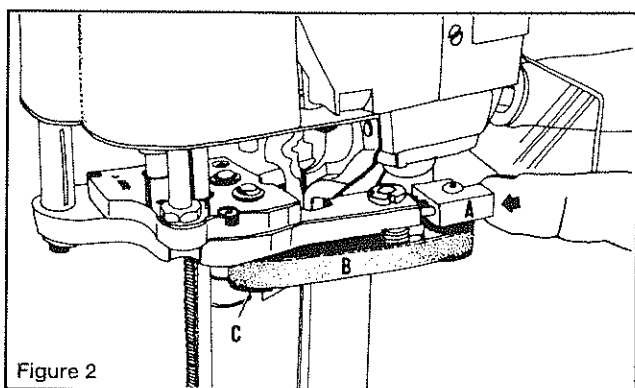

Figure 2
2.5 TO CHANGE FLEXIBANDS (Figures 2 and 3)
- Figure 2: Push Block "A" to release right (upper) FlexiBand "B". Remove FlexiBand from Block and then from Drive Pulley "C".